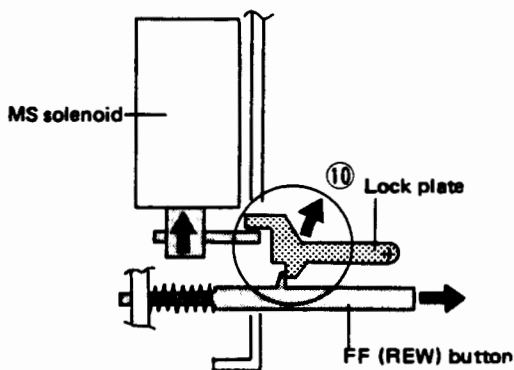

Fig. 15-12 FF (REW) button release
1. When the FF (or REW) button is pressed in the PLAY mode, the action of gear lever C returns gear lever B in the (8) direction (Refer to 15.8 FF (or REW) Operations) to free stopper C on the cam gear.
2. The cam gear rotates in the (9) direction until stopped by cam gear stopper C making contact with gear lever C.
5. The action of joint R (L) throws the lever switch to the ON side, and the driving arm moving in the (3) (or (4)) direction starts reel base rotation in the FF (or REW) mode. (See also 15.8, FF (or REW) Operation, step 3).
6. When the tape blank detector circuit locates a non-recorded section of the tape, the MS solenoid is activated, pulling the lock plate in the direction of (10) (Fig. 15-12).